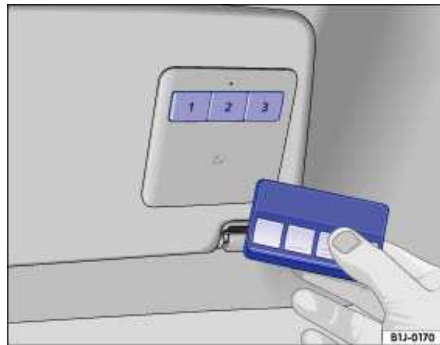

Fig. 52 In the driver side sun visor: The remote control and buttons for the HomeLink Universal Transmitter.
2. Position the hand-held transmitter for your remote control device 1-3 inches (25-75 mm) away from the HomeLink keypad on the driver side sun visor, keeping the HomeLink indicator light in view, as shown ⇒ fig. 52.